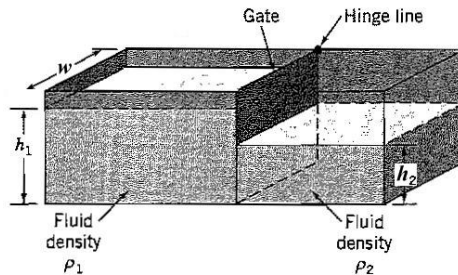

Figure P2.26
2.26 The tank shown in Figure P2.26 has a gate which pivots on a vertical, frictionless hinge locate at the top of the gate. Find the ratio of the depths of water h_1/h_2 in terms of the densities ρ_1 and ρ_2 when the gate is in static equilibrium.